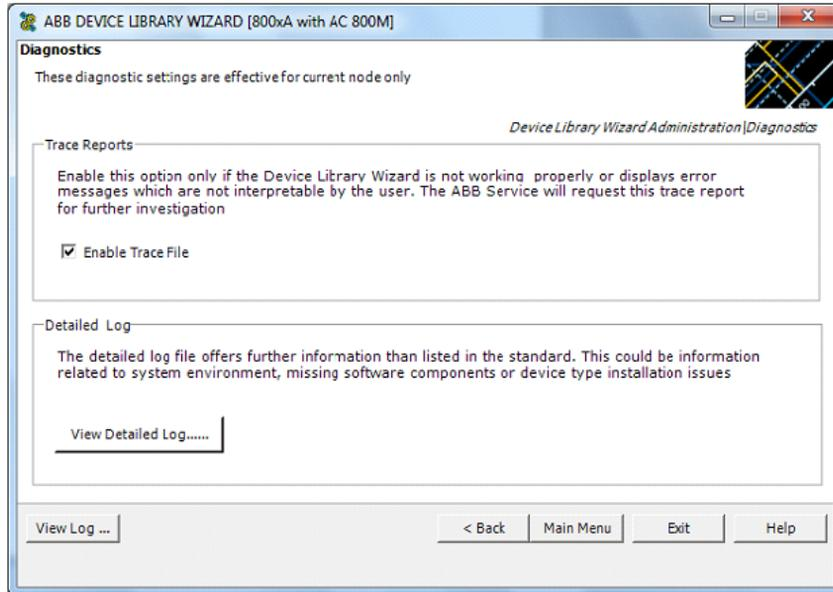

Figure 24. Enabling the Trace File
2. Select the **Enable Trace File** check box as shown in Figure 24 in the path: